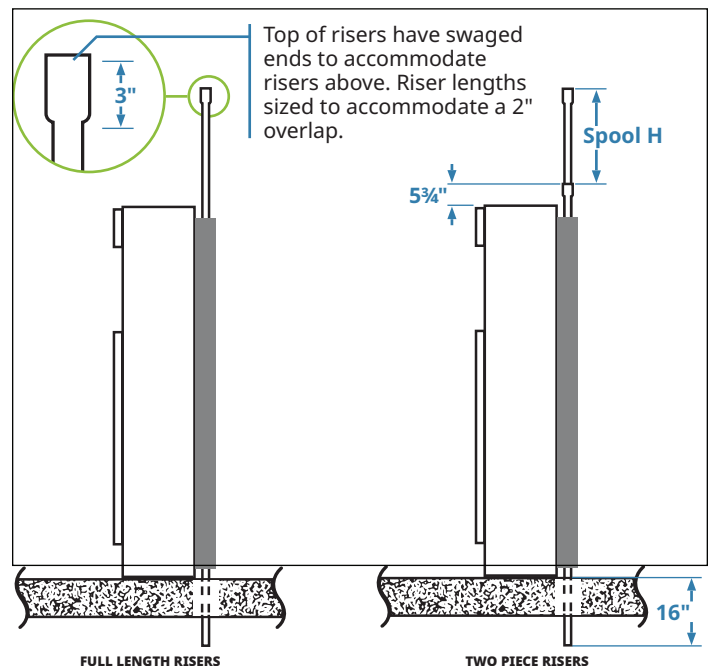
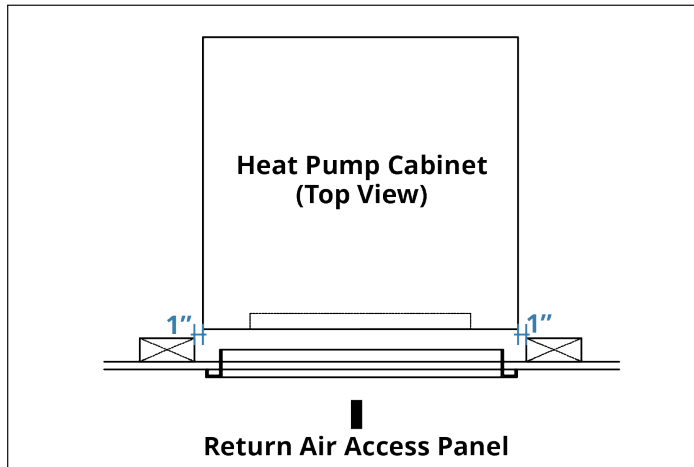

Figure 1
Figure 2
4. Check risers end 16" (406 mm) from the bottom of the cabinet. See *Figure 1*. If not; loosen cable tie, adjust the risers as needed, and re-tighten the straps. Ensure valve connections are centered to the height of the drywall opening. See *Figure 2*.
Note: Top of risers have swaged ends to accommodate a 2" (50 mm) overlap between floors. See *Figure 1*.
6. Ensure cabinet is centered to drywall opening with 1" (25 mm) of space to either side. See *Figure 2*.
16. Ensure cabinet is centered to drywall opening with 1" (25 mm) of space to either side. See *Figure 2*.
3. Center risers in slot. Ensure risers will end 16” (406 mm) from the bottom of the cabinet. Note: Top of risers have swaged ends to accommodate a 2” (50 mm) overlap between floors. See *Figure 1*.